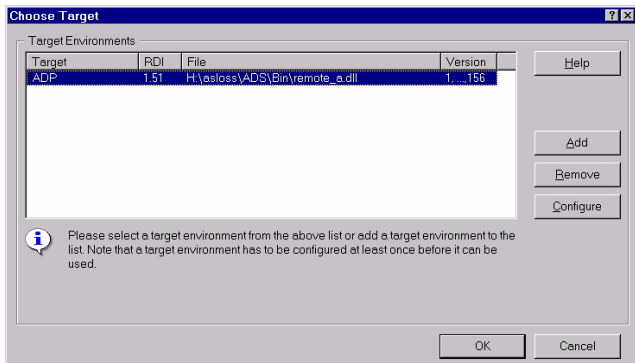

Figure 2 Choose Target dialog
2. From CodeWarrior, select **Debug** from the **Project** menu to download the Pascal's Triangle example image. This launches the *ARM eXtended Debugger (AXD)*. The **Choose Target** dialog box is displayed (see Figure 2).